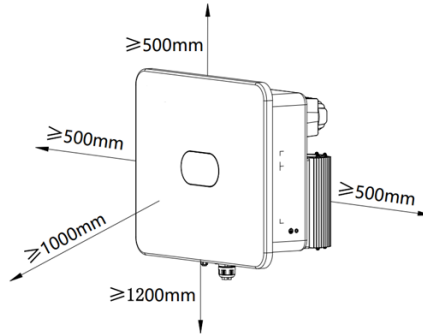

Fig. 4.4 Installation Spacing of Inverter
(2) Leave adequate space around the inverter to facilitate air circulation and future handling of the inverter. See Fig. 4.4.